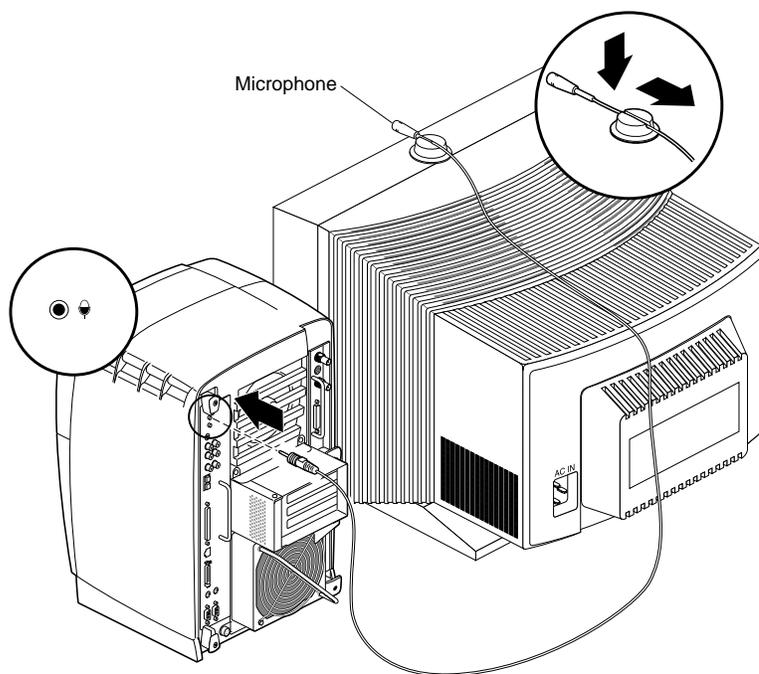

Figure 6-15 Installing the Microphone
2. Slide the microphone into the base, as shown in Figure 6-15.